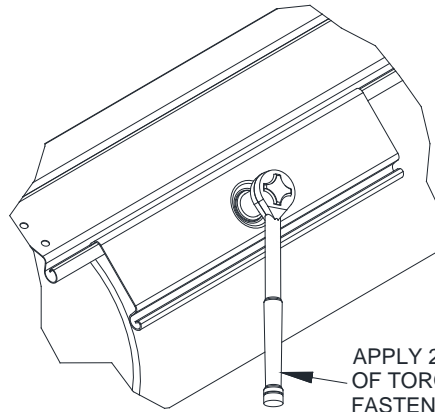

Figure 8.1 - Installing the Fastening Section
7. Uncoil the curtain enough for the fastening sections to reach the attachment points on the shaft. Fasten them by aligning the fastening section with the hole in the ring or shaft respectively, and fasten using the provided hardware (See **Figure 8.1**). If the curtain is too heavy to uncoil by hand, use the method described in the following step to get the fastening sections in position.